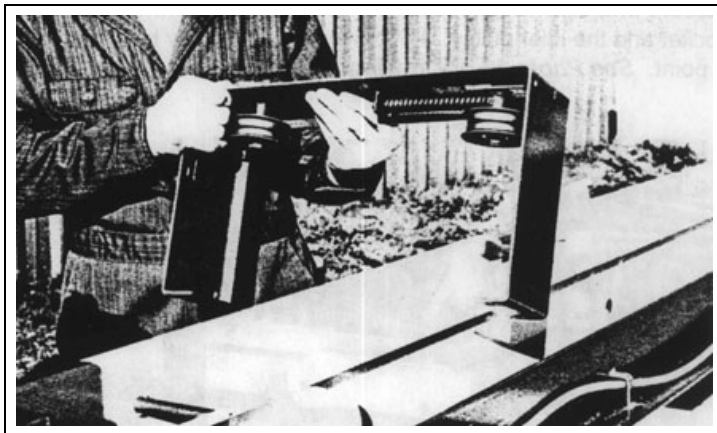

Figure 4L
16. **Chain Idler Support Yoke:** Bolt chain idler support yoke on to the main frame, positioning support yoke with spring-loaded idler on the same side of the main frame as the heavy electrical wires. Secure, using four (4) 5/16" x 1" hex head bolts, lock washers and nuts. (See Figure 4L and Page 54.)